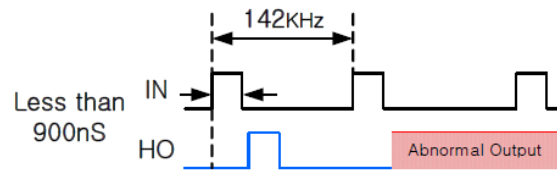

Figure 5. Abnormal Output Waveform with Pulse Width
6. When $V_{DT} = 1.2$ V. Refer to Figures 5, 6, 7 and 8.